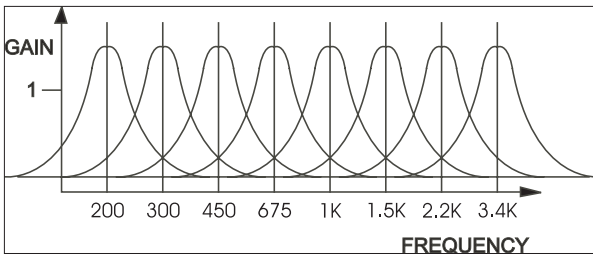

Figure 6 - MIDS Frequency Response
5) Now, play a bright, sustained sound, preferably of low pitch into the MIDI MuRF - keep in mind that filter effects work by *removing* frequencies, so you must have a bright sound to hear the effect! Figure 6 shows the MF-105M's MIDS frequency response, the response that you hear when the panel controls are set up as in the basic setup. Note that there are 8 resonances – they impart warmth and color to the sound. For a moment press the bypass switch and turn the effect off. Note the change in character of the sound. Now switch the effect back on.